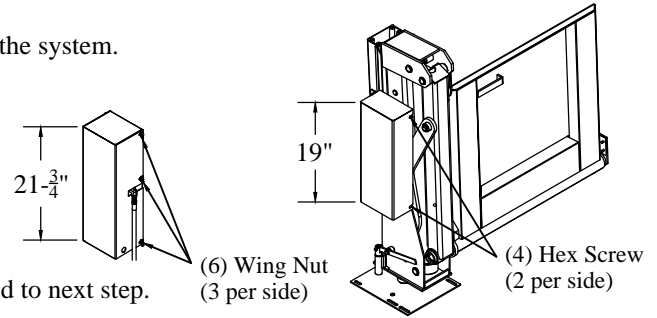

Figure 1: Pump box cover fastener locations.
4. **Remove** the pump box cover by loosening four (4) hex head screws or six (6) wing nuts (Figure 1).